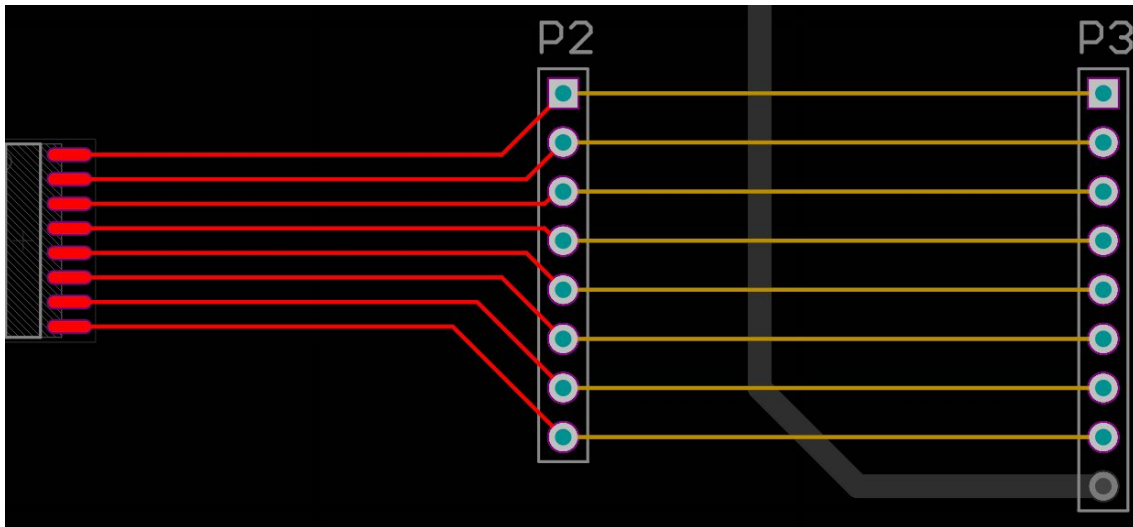

Figure 7. Results of ActiveRoute with all layers enabled
16. Reselect the ADDR[7..0] bus from the *PCB* panel and hit **Shift+A** to start the ActiveRouter. The remaining connections from P2 to P3 were continued on Signal Layer 1, Figure 7.